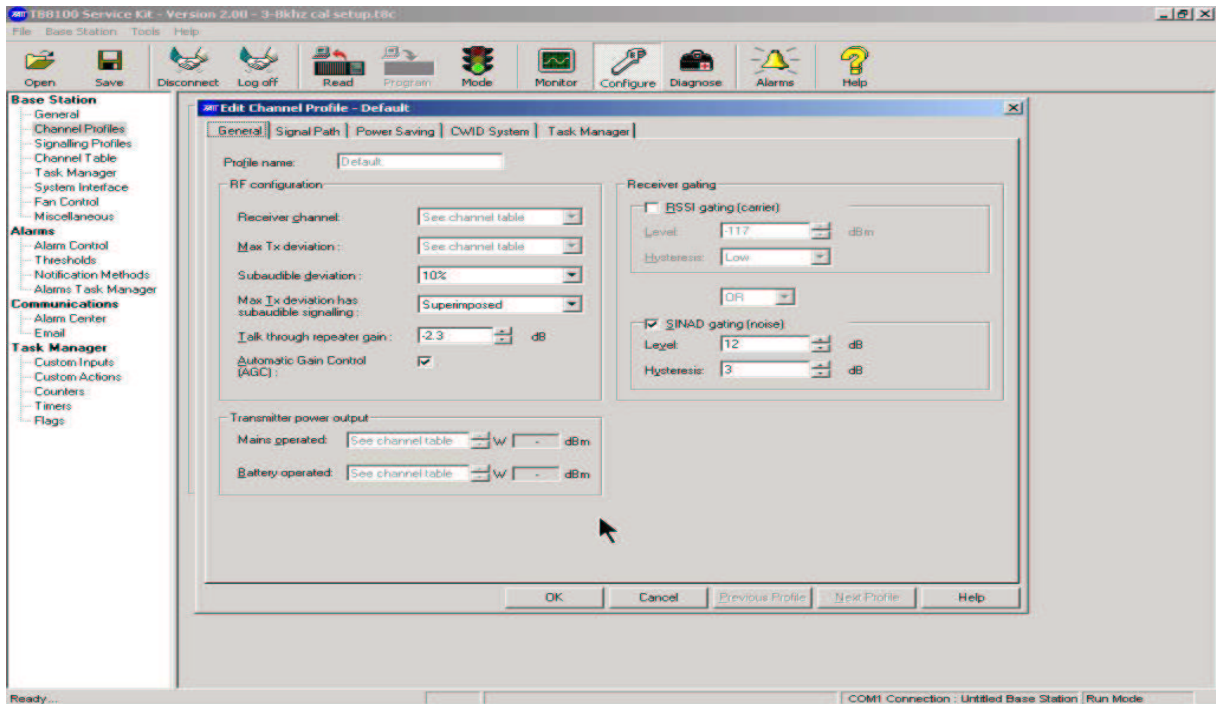

Fig. 1 - Configure/Channel Profiles/General page
**Configure/Channel Profiles/General** (see Fig. 1) and